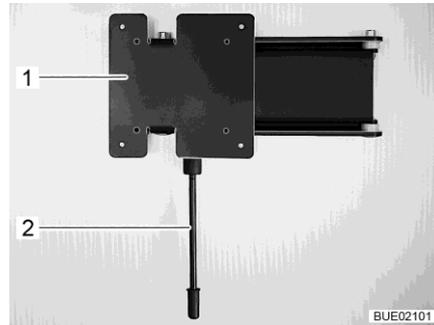

Fig. 68 Wall holder
- Pull down the release lever (Fig. 68,1) and turn the holder (Fig. 68,2) with the flat screen to the desired position.